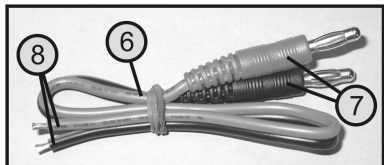

Figure 2
➔ The charging cable (see figure 2, item 6) is only displayed coiled for photo-technical reasons. Only charge with the cable uncoiled.